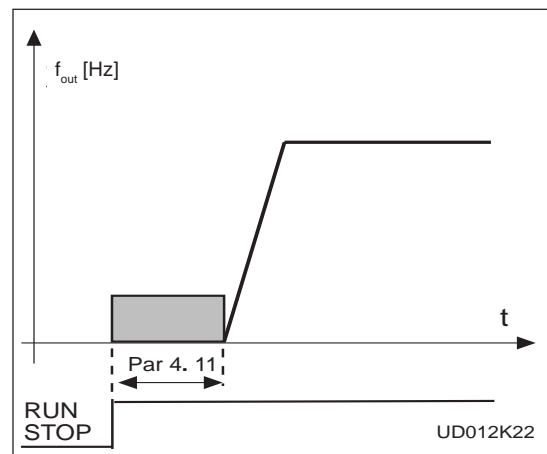

Figure 2.5-25 DC-braking time at start.
- >0 The DC-brake is activated by the start command given. This parameter defines the time before the brake is released. After the brake is released the output frequency increases according to the set start function parameter 4.6 and the acceleration parameters (1.3, 4.1 or 4.2, 4.3). See figure 2.5-25.